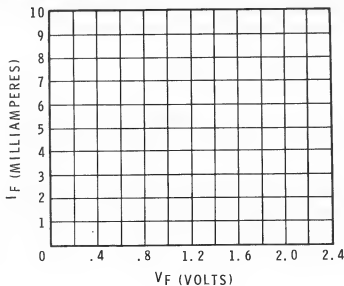

Figure 3-83
7. Now plot the corresponding I_F and V_F values in Figure 3-82 on the graph shown in Figure 3-83. Join the various points to form a continuous curve. Then turn off your Experimenter and read the following discussion.